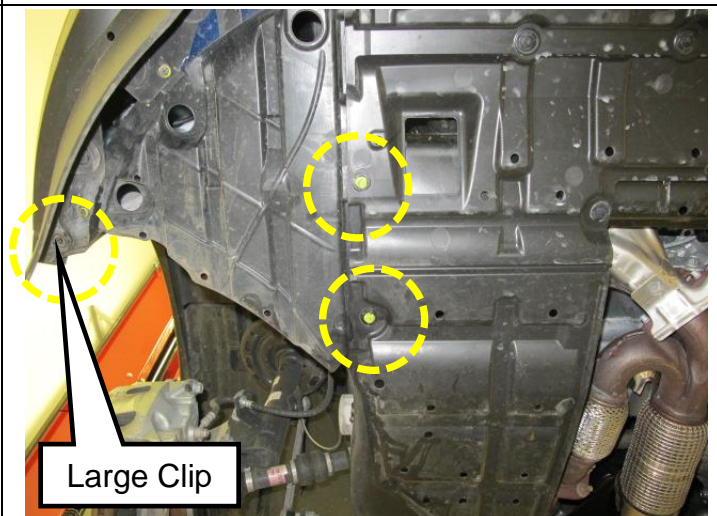

Figure 20
19. Install (3) retainer clips from the bottom of front fender protector (RH).
- Clips are highlighted in yellow in Figure 20